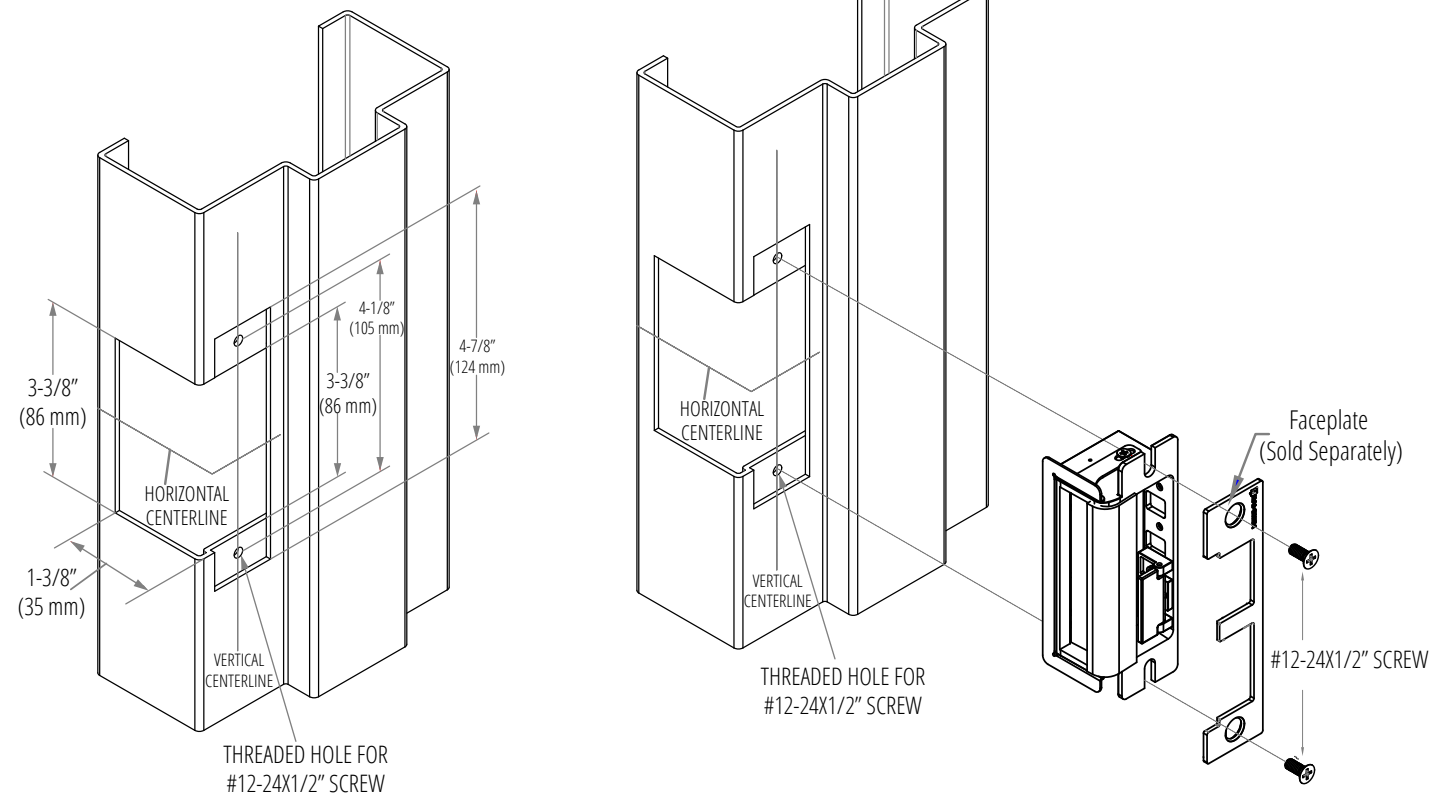

Figure 4.2 Cutout Dimensios
- Check that the door jamb has a cutout that fits the strike assembly. If not, refer to figure 4.2 for guidance.